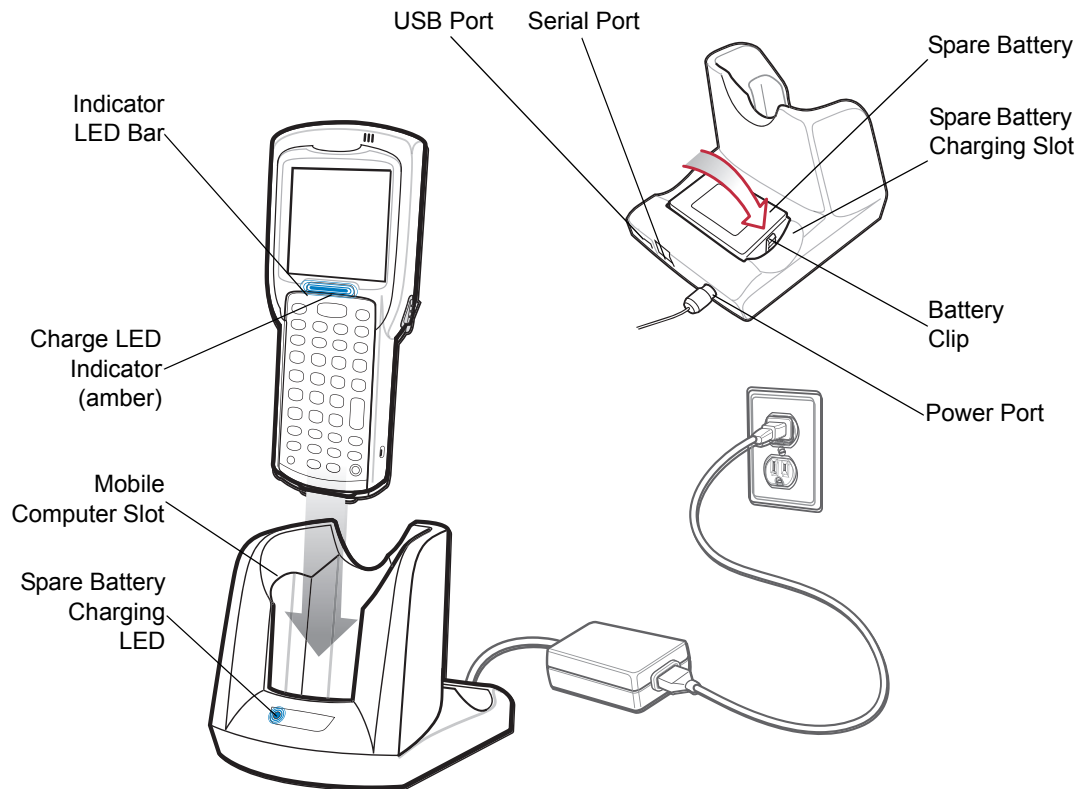

Figure 4-1 Single Slot Serial/USB Cradle
3. The Spare Battery Charging LED (see Figure 4-1 on page 4-6) indicates the spare battery charging status. The Standard Battery charges in less than five hours and the Extended Life Battery charges in less than eight hours. See Table 4-2 for charging status indications.